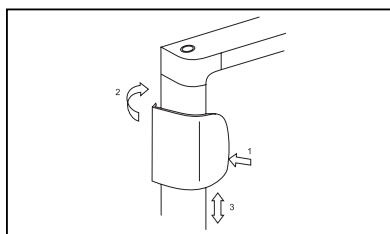

Figure 15.
10. Assembly of door handle (Fig. 15)